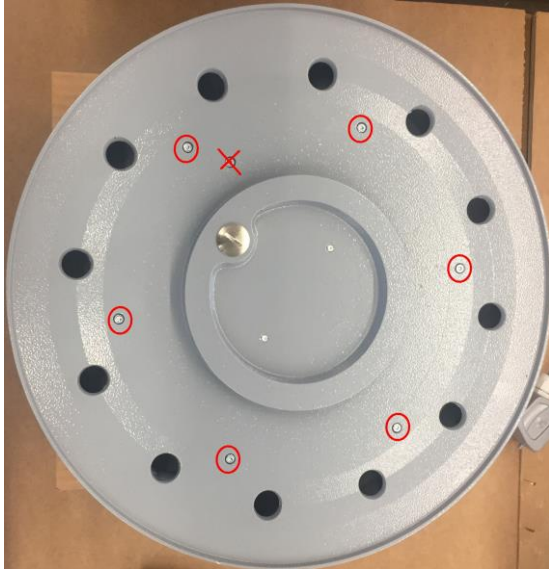

Fig. 1
1. Unscrew the 6 screws (Fig. 1)